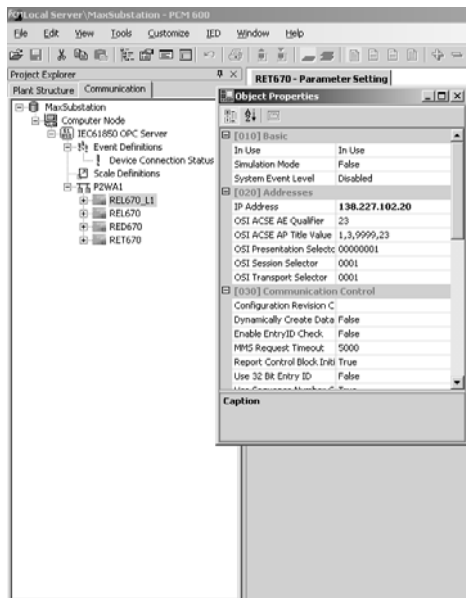

Figure 6: Setting IP.
- The IP address is set under communication structure (right click the plant structure tab) Select the IED and set the IP address under properties as shown in figure 6.